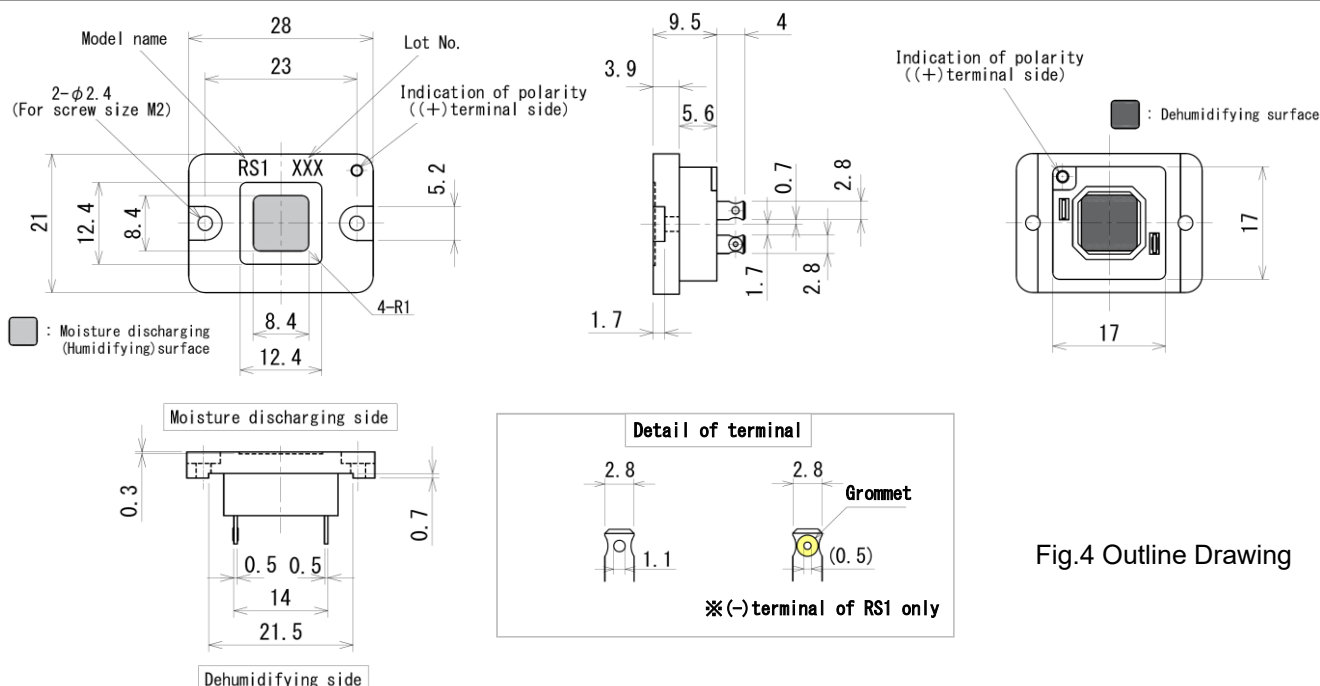

Fig.4 Outline Drawing
- ^{*4} Refer to the Figure 4.